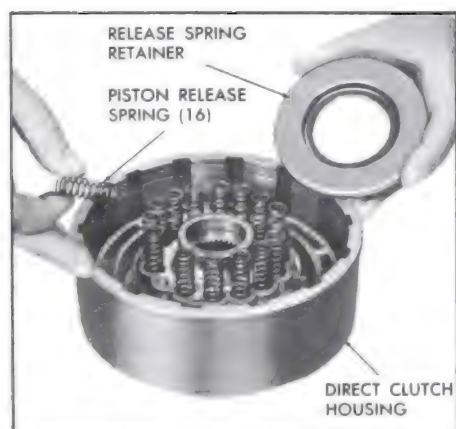

Figure 5-628
6. Remove retainer and sixteen (16) piston release springs. See Figure 5-628.